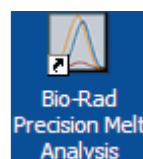
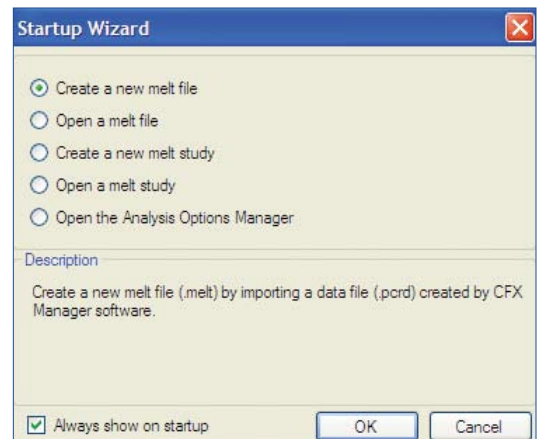

Fig. 2. Desktop software icon.
Fig. 6. Startup Wizard in Precision Melt Analysis software.
5. After installation, launch the software by double clicking on the desktop icon (Figure 2), or select **Start > Programs > Bio-Rad > Precision Melt Analysis**.
Double click on the desktop icon (Figure 2), or select **Start > Programs > Bio-Rad > Precision Melt Analysis**. To navigate within the software, use the Startup Wizard (Figure 6), which provides quick access to common software commands found in the menu bar and the toolbar.
To convert a data file to a melt file, select **Create a new melt file** in the Startup Wizard (Figure 6), or select **File > New > Melt File** from the File menu. Choose the data file, then click **Open**.
To open an existing melt file, select **Open a melt file** in the Startup Wizard (Figure 6), or select **File > Open > Melt File** from the File menu.